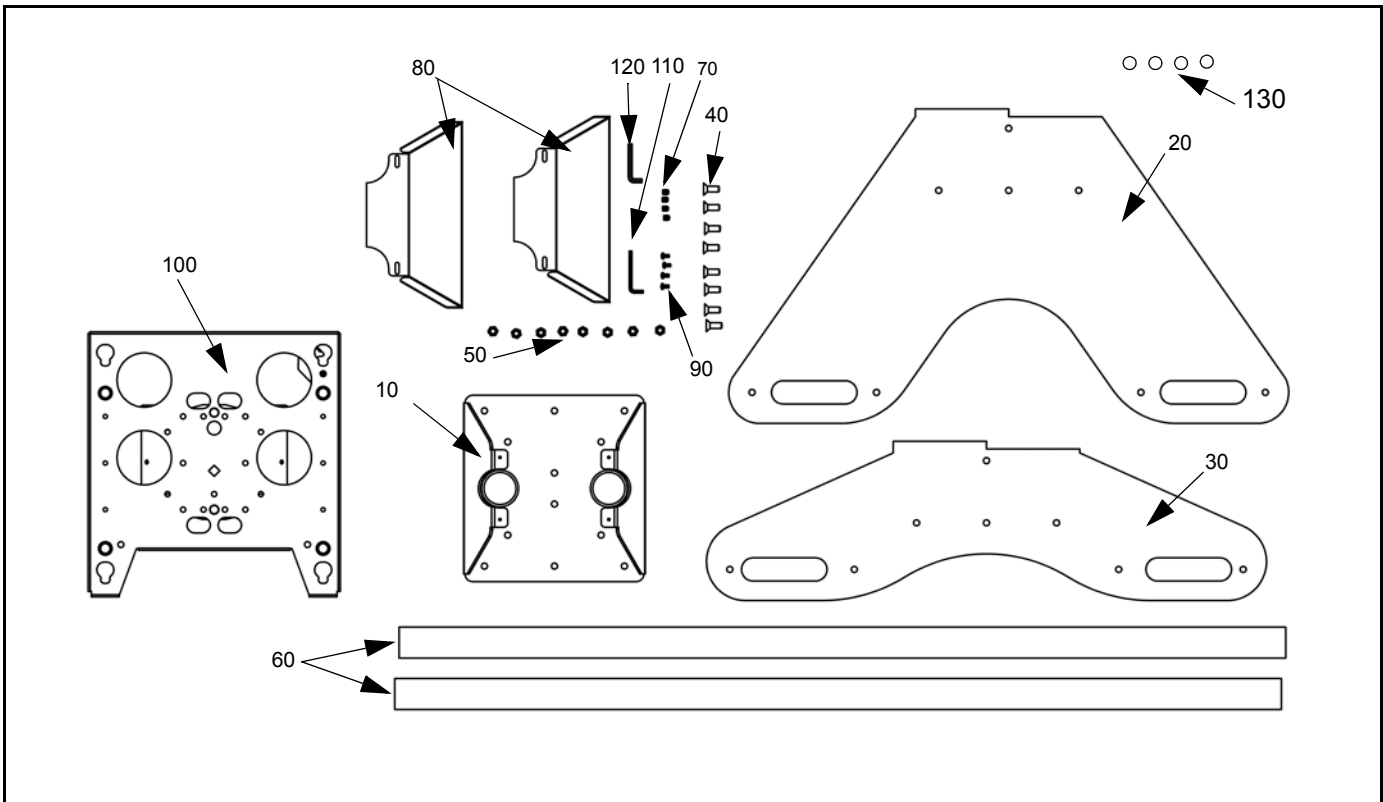

Figure 1: Parts
1. Carefully inspect the Plasma Floor Stand (see figure 1) components for shipping damage. If any damage is apparent, call your carrier claims agent and do not continue with the assembly procedure until the carrier has reviewed the damage.